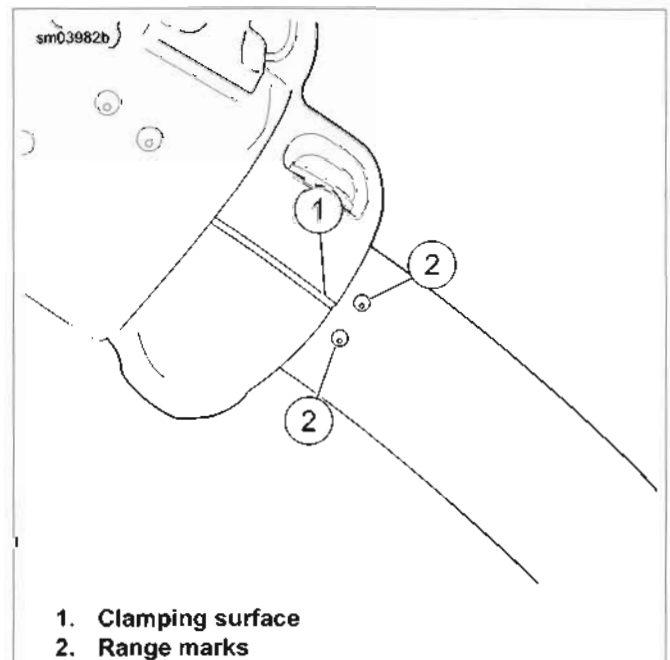
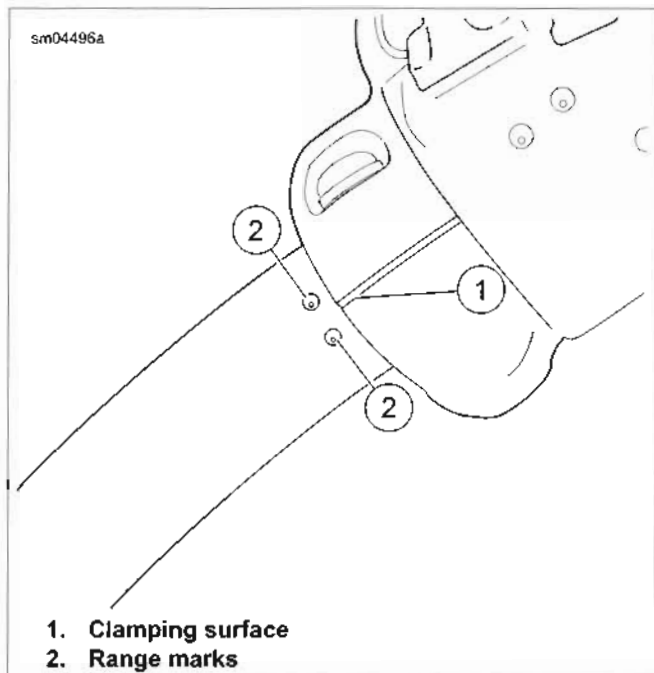

Figure 2-100. Left Hand Control Assembly to Handlebar Alignment
Figure 2-101. Right Hand Control Assembly to Handlebar Alignment
See Figure 2-100 or Figure 2-101. When installing left and right handlebar switch assemblies, make sure that clamping surface (1) stays within the range marks (2) or damage to the wires will occur.